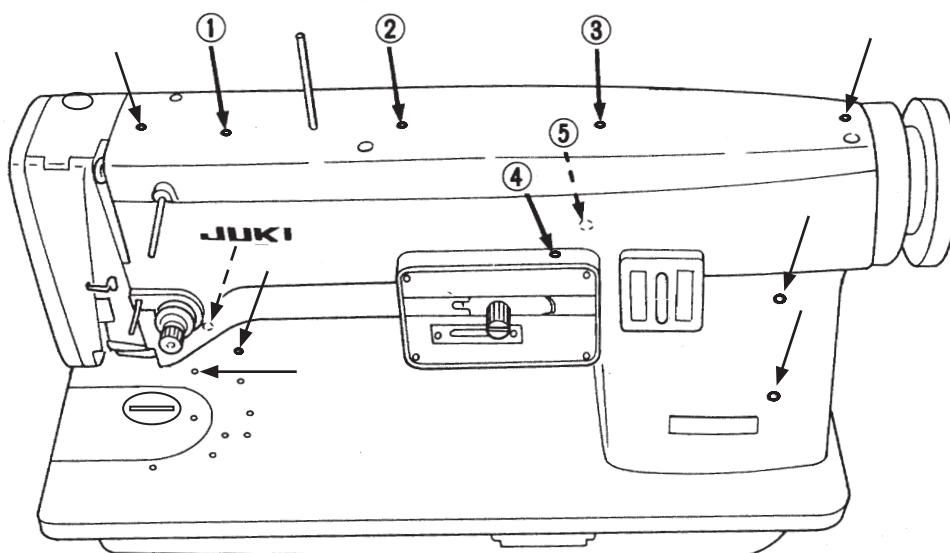

Fig. 8 Showing oiling holes
First, oil all the holes marked in red color at least one to two drops every day. (Arrows in Fig. 8). On the holes marked by heavy arrows ① ② ③ ④ ⑤, oil 5~6 drops before operating the machine. These holes have oil reservoirs and designed to supply oil to all essential frictional parts. (The dotted arrows in Fig. 8 mean oiling holes on the other side of the machine which cannot be seen from this side)